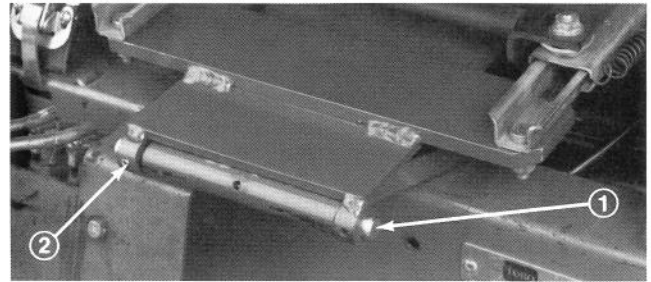

Figure 9
7. Mount seat and seat support to seat pivot bracket with pivot shaft and roll pin (Fig. 9).
10. Hold seat up with seat support rod (Fig. 9).